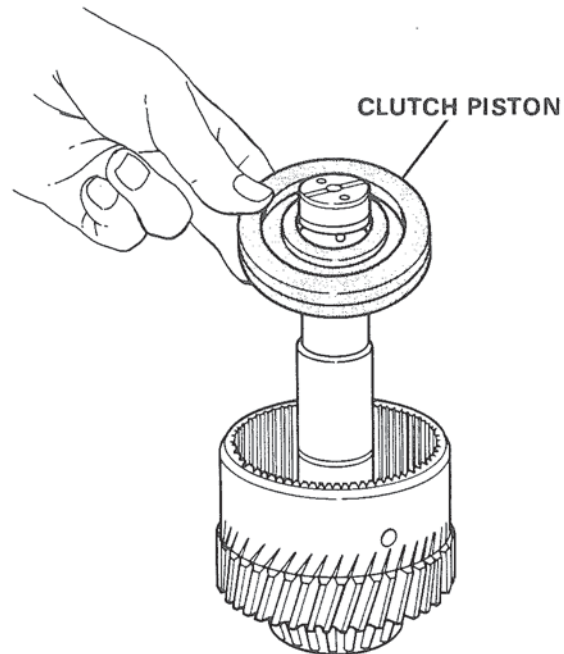

Figure 29. Removing Clutch Piston.
7. **Clutch Piston.** Remove the clutch piston from the transfer gear and clutch shaft. Figure 29. Remove lathe-cut seal ring and piston type hook end ring from the piston.